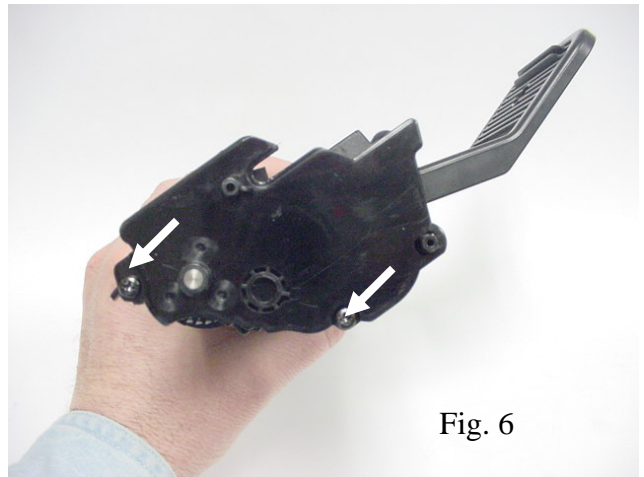

Fig. 6
6. Remove the two screws that hold the opposite end cap in place (Fig. 6).